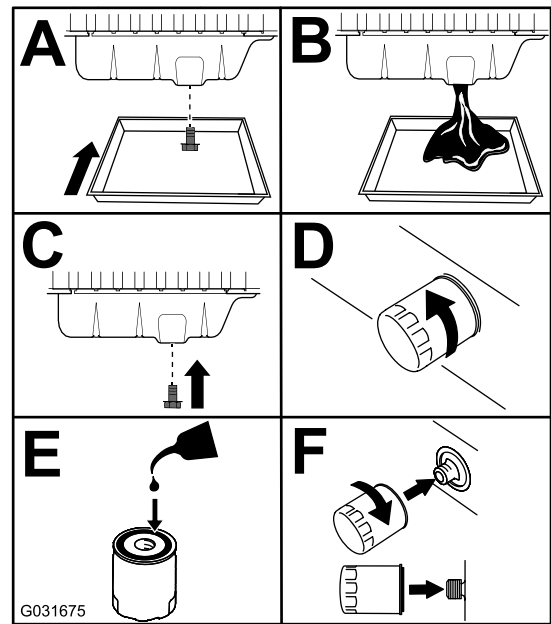

Figure 74
3. Replace the engine oil and filter (Figure 74).